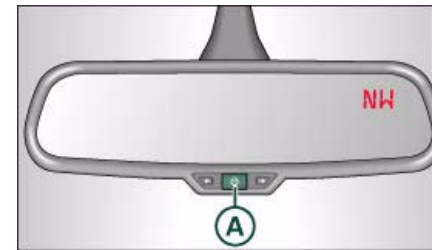

Fig. 73 Interior mirror: activated digital compass
- To switch the compass on and off, press and hold button  until the compass display in the mirror ⇒ fig. 73 appears or disappears.
- Press and hold button **(A)** ⇒ page 71, fig. 73 until the currently set zone number is displayed on the interior mirror.